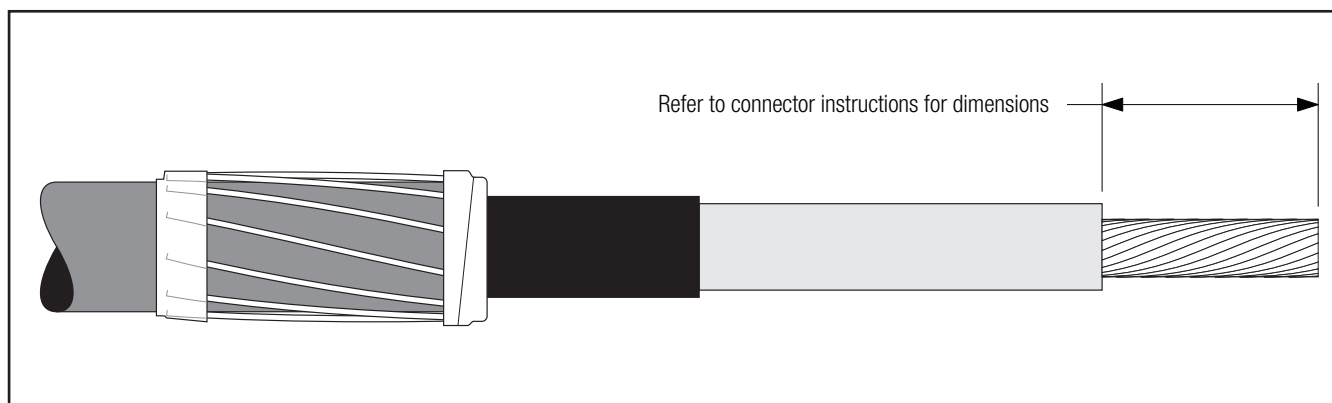

Figure 6
- 3.1 If using a 3M Shearbolt Connector QCI 350-750 or QCI 500-1000, refer to the instructions included with the connector for insulation cut-back dimension. Insulation removal length shall not exceed 3 3/4" (95 mm) from conductor end (*Figure 6*).